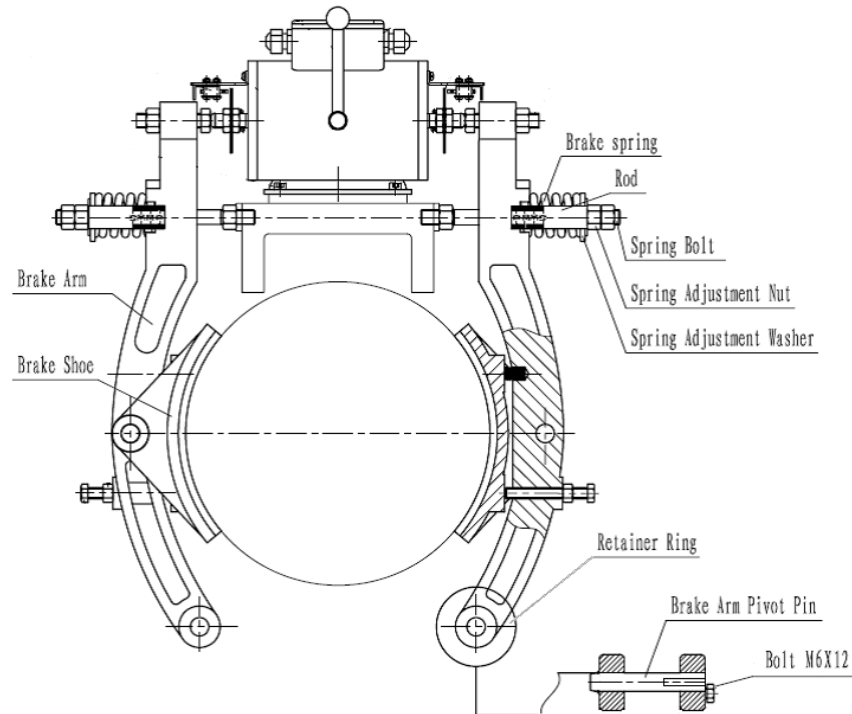

Figure 34 Normal Brake Lining
2. Loosen the spring adjustment nut & washer, taking the pressure off the brake spring. See figure 34.
4. Remove the brake arm pins by pulling on the bolt installed in Step (3).
2. Install the pressure spring into the hole of the brake arm, and attach the brake lining with the pin and the snap ring. See figure 34.